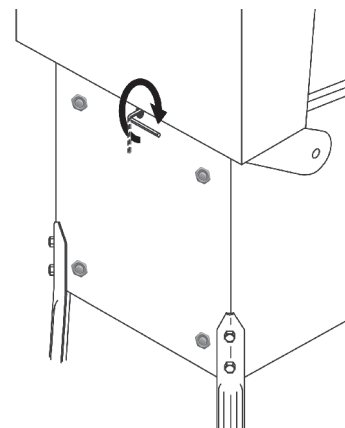

Fig. 7 Locking the backbox in the upright position
9. Using the large allen key, lock the cabinet head in its upright position to prevent it from falling down (Fig. 7).